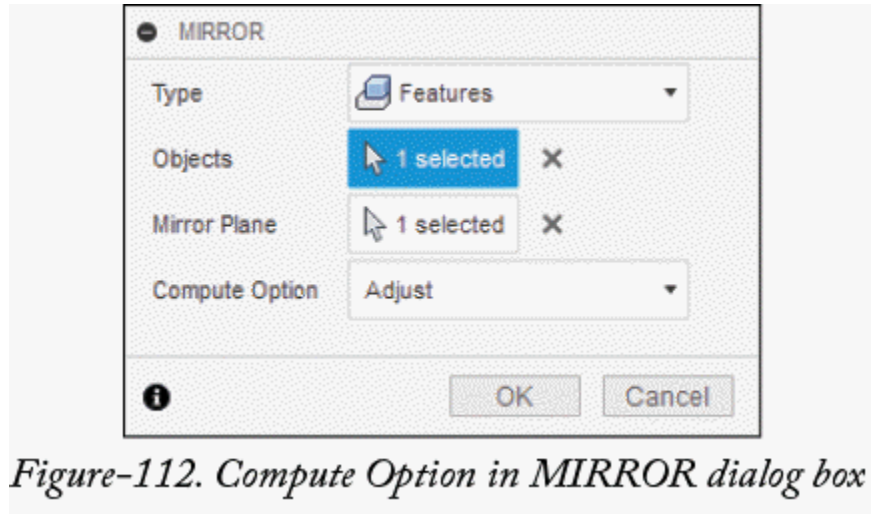

Figure-112. Compute Option in MIRROR dialog box
- If you have selected **Features** in **Type** drop-down then **Compute Option** drop-down will also be displayed in the dialog box; refer to Figure-112. Select the **Optimized** option if you want to create copy of feature with minimum processing time and less flexibility to individually change features later. Select **Identical** option if you want to create copy of feature using same background programming which was used while creating the base feature. Select the **Adjust** option if you want to recompute each instance of the feature as a separate feature.